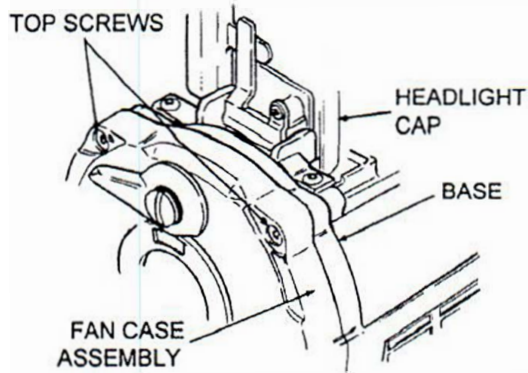

Figure 20. Headlight Cap/Slide Bracket Assembly/Handle Pivot Assembly
- E. See Figure 20. Remove two screws at the top of the fan case. These screws pass through the fan case assembly and base pan and thread into the slide bracket casting. Remove headlight cap/slide bracket assembly and handle pivot assembly as a complete unit.